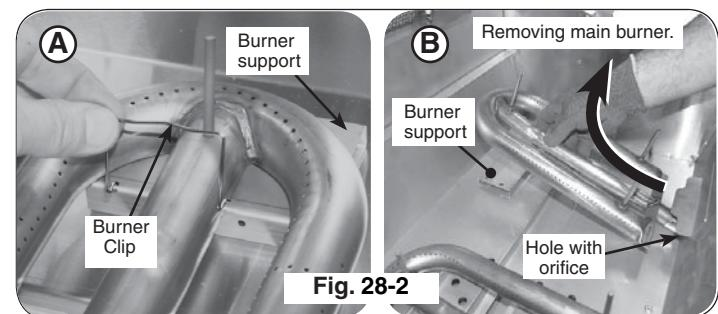

Fig. 28-2
2. Locate the burner. Slightly pinch and remove the burner clip (located over the rear center of the burner) from the burner support and set aside (see Fig. 28-2, A).
3. Carefully lift the burner from the burner support and out from the hole in the forward fire wall (see Fig. 28-2, B).
4. Use a $\frac{1}{4}$ " hex deep socket nut driver to remove the exposed orifice. Access it through the hole in the forward firebox plate inside the grill (Fig. 28-2). Check orifice. If needed, replace it with the correct orifice for the new gas.